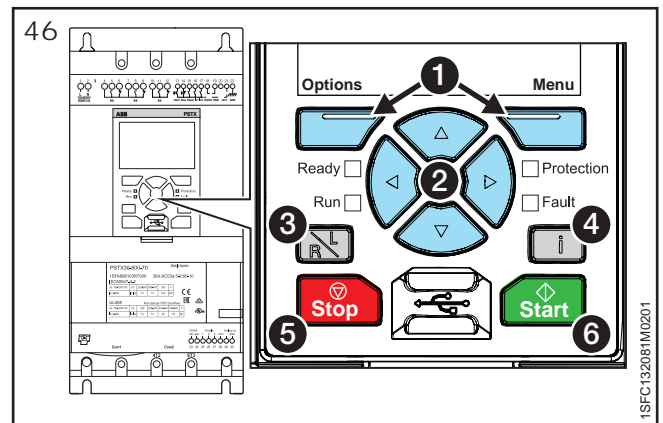

Figure 46: Keypad
Press this key for help and general information about the current setting in the HMI. **See ④ in Figure 46**.
The Stop key is the stop switch for the softstarter. By pressing this key the motor will stop according to set parameters. It is possible to press stop command during the start ramp if required. (Only active in local control mode). **See ⑤ in Figure 46**.
The Start key is the start switch for the softstarter. By pressing this key the motor will start and operate according to the set parameters. (Only active in local control mode). **See ⑥ in Figure 46**.
Table 2 Keypad, Figure 46